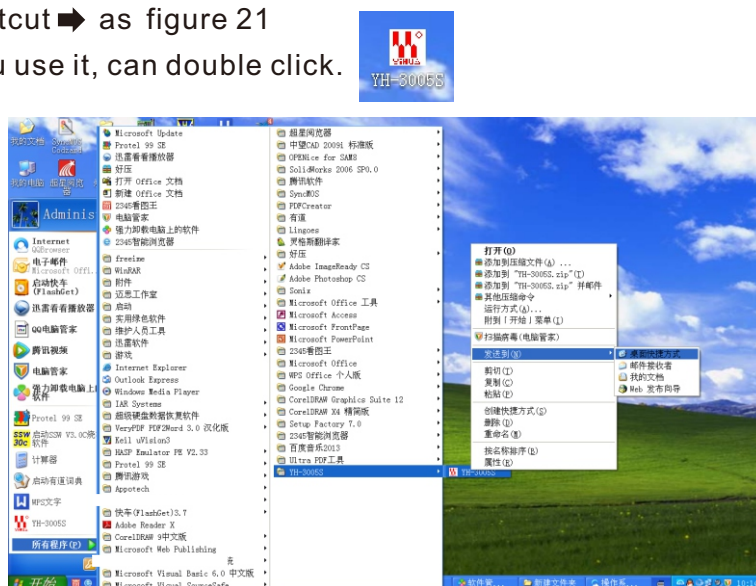

Figure 21
- B. Start ➡ all program ➡ YH-3005S group ➡  YH-3005S ➡ Right-click ➡ send to desktop shortcut ➡ as figure 21